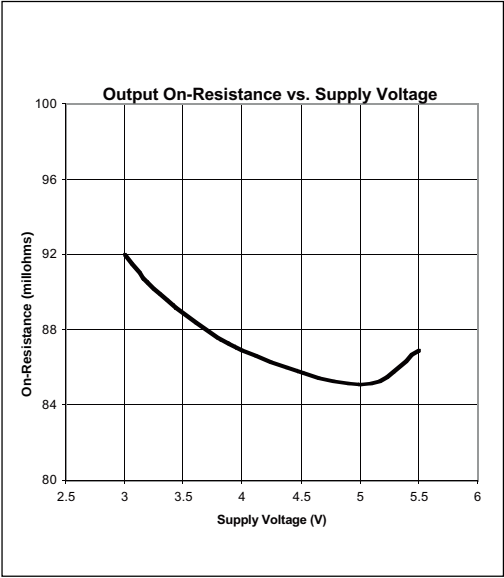

Figure 7. Output On-Resistance vs. Supply Voltage
The SP2026 can provide inrush current limiting for applications with large load capacitances where $C_{BULK} > 10\mu F$. Refer to the circuit in *Figure 7* for a configuration that will meet USB transient regulation specifications with large load capacitances.
- Refer to *Figures 7 to 14* for typical performance characteristics of the SP2026.